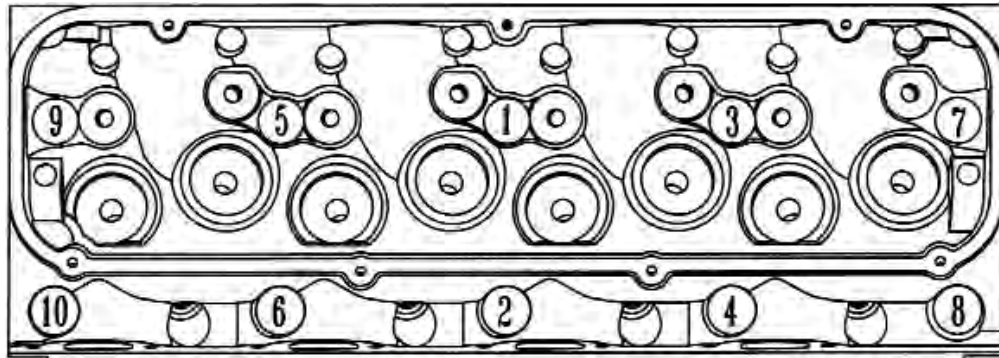

Figure 1— Tightening Sequence
6. Head Installation - Use Edelbrock # 7314 or Fel-Pro #1018 head gasket or equivalent. **NOTE:** For Performer RPM 460 (Non-CJ) heads, Edelbrock Cylinder Head Gasket Set #7365 may also be used. This set includes all gaskets necessary for installation of Edelbrock cylinder heads; including intake, exhaust, cylinder head, water neck and valve cover gaskets. Follow the installation instructions for the head gasket. Be sure that the surface of the block and the surface of the cylinder head is thoroughly cleaned to remove any oily film before installation. Use alcohol or lacquer thinner on a lint-free rag to clean. Apply engine oil to the head bolt threads, washer, and bolt where it contacts the washer. The head bolt washers should be checked that they seat properly on the bolt underhead, and not on the head bolt underhead radius. Torque the head bolt 135 ft./lbs. in four steps following the factory tightening sequence (see Figure 1). A re-torque is recommended after initial start-up and cool-down (allow 2-3 hours for adequate cooling). Install the intake manifold bolts lubricated with engine oil not exceeding 25 ft-lbs of torque when tightening. It is also good practice to lubricate the exhaust manifold/headers bolt threads with a small amount of anti-seize paste. Spark plugs should also be tightened to a maximum of 10 ft-lbs of torque with the sparkplug thread lubricated with a small amount of anti-seize paste.